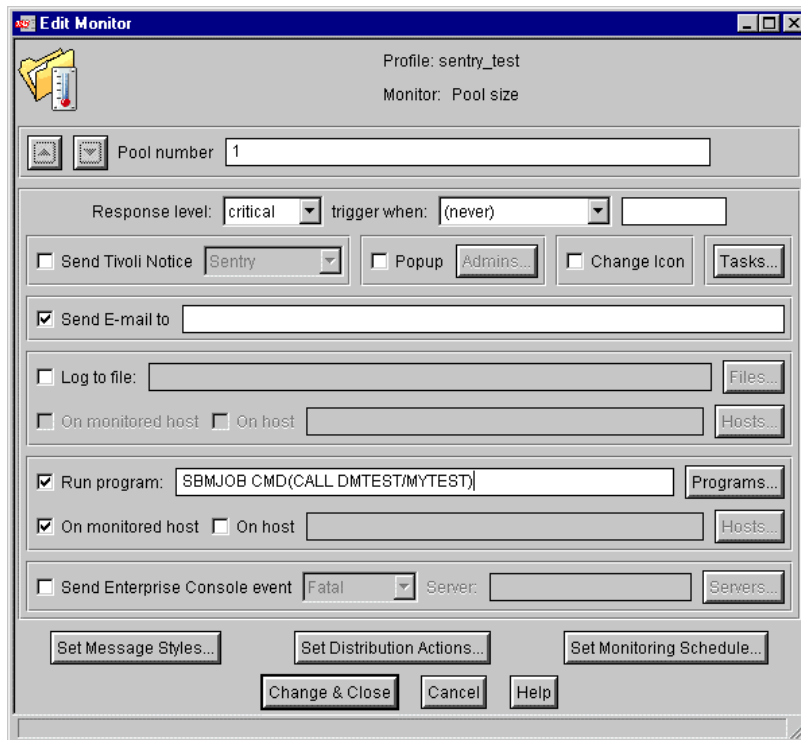

Figure 116. Configuring the Distributed Monitoring monitor
5. This is where you select the response level desired for the monitor. In this case, when the response level triggers the critical level, the response is to run a program on the monitored host. The run program entry is shown in Figure 116 on page 239.